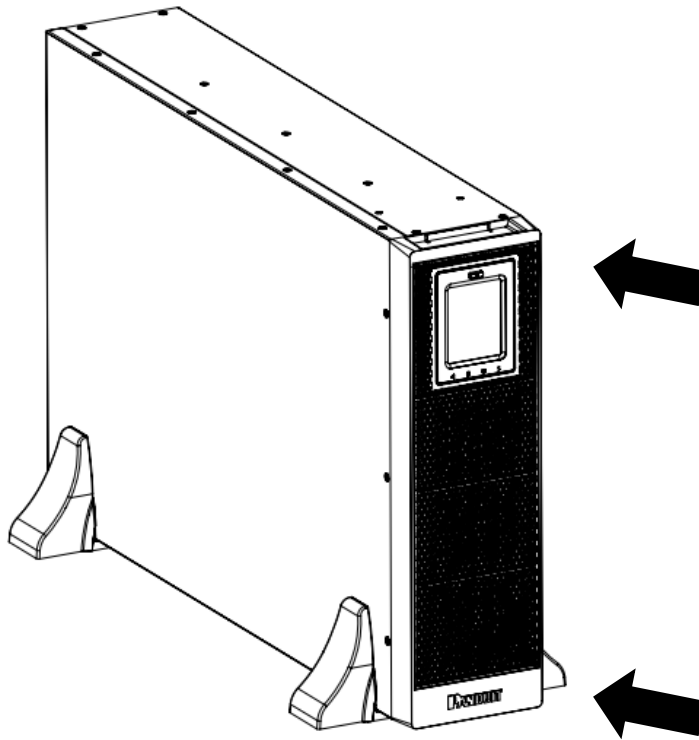

Figure 56: Example of Snapping the Faceplate onto the Front of the UPS 3-Phase Units (U10N32V, U10S32V, U15N32V, U15S32V, U20N32V, U20S32V, UVP480, UMB20K)
3. Install the faceplate on the unit, by aligning the front panel latches with the holes in the front of the unit and snapping the faceplate onto the front of the unit. Should have a positive snap of the latches on the faceplate (see Figure 56).